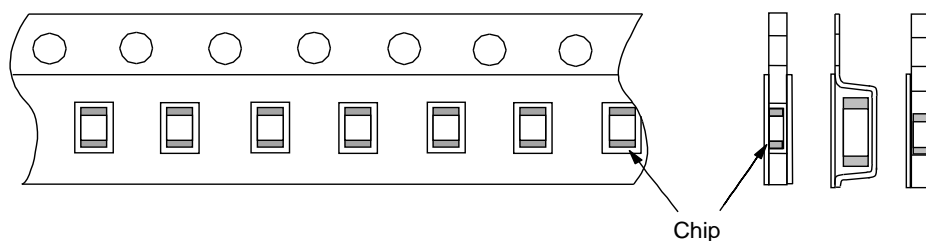

Fig.2 Dimensions of Reel
Solder the capacitor on the test substrate shown in Fig.1. Pressurization method : Shown in Fig.2 Holding Time : 5+/-1s Soldering Method : Reflow soldering
<p>Fig.2 t : 0.8mm</p>
1.11 Reel is made by resin and appeaser and dimension is shown in Fig 2.